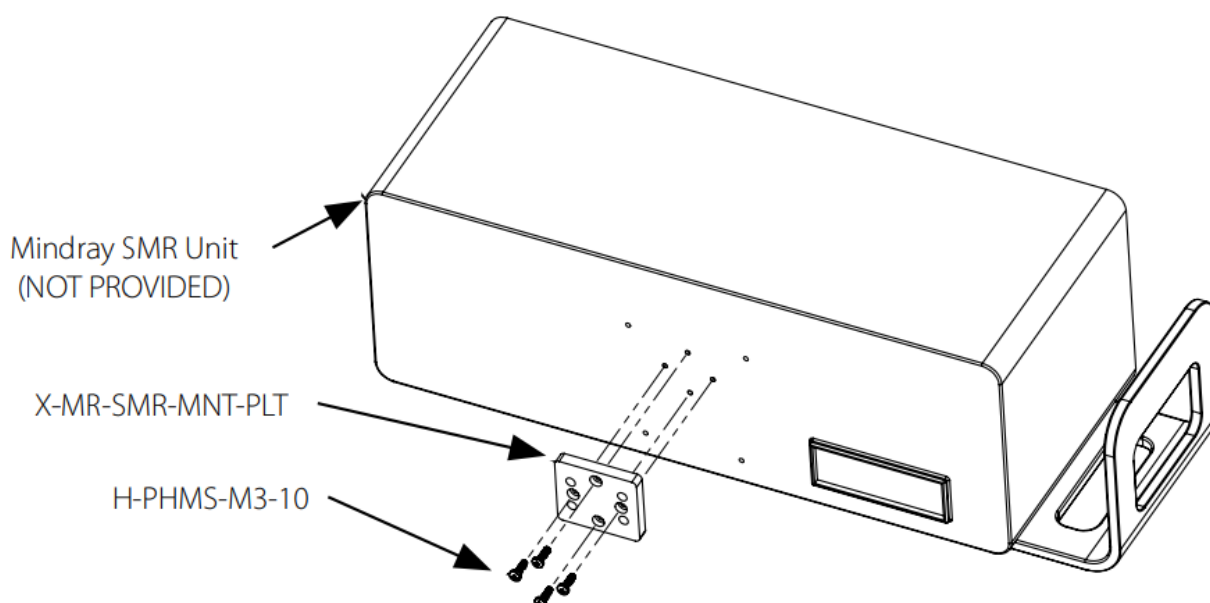

Figure 1
1. Align the SMR adapter plate to the back mounting holes of the Mindray SMR Unit and fasten H-PHMS-M3-10 with #2 Philips Screwdriver. (Figure 1)